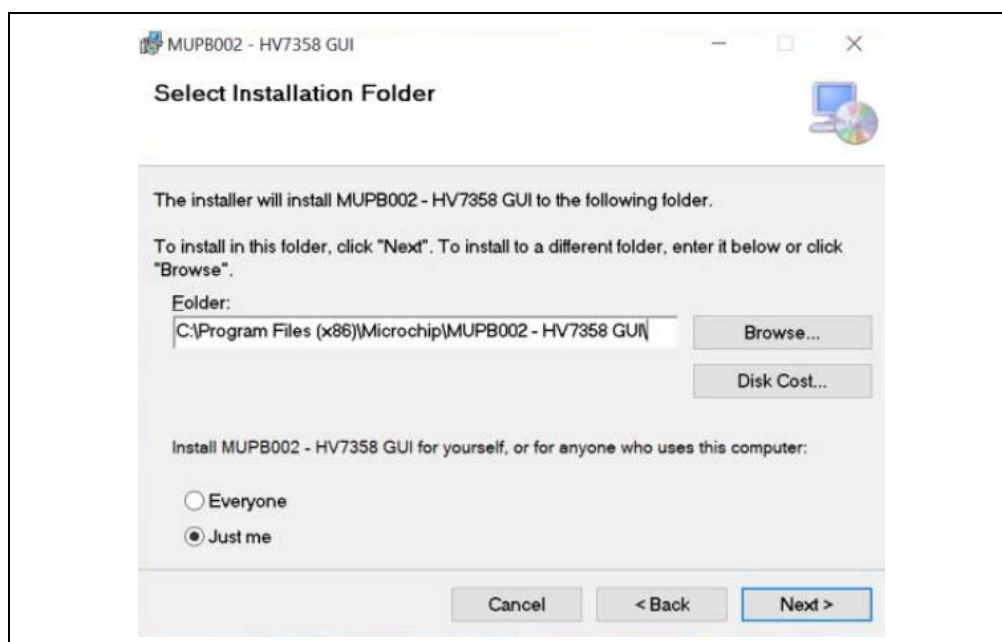

FIGURE 2-12: *Installation Folder.*
4. The next window, shown in Figure 2-12, sets the Select Installation Folder. The default folder is shown. A different folder may also be specified.